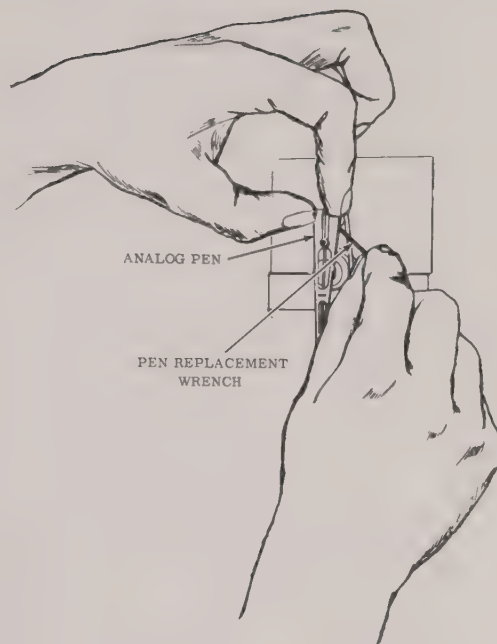

FIGURE 6-5 ANALOG PEN REPLACEMENT
10. Use pen replacement wrench and loosen set screw securing pen to the drive arm shaft. (Fig. 6-5)